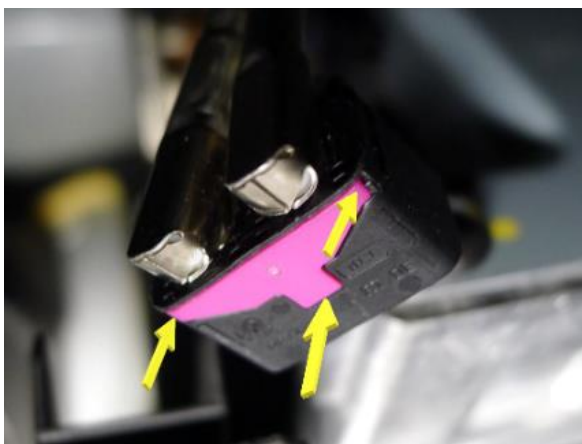

Figure 12 – Model 3
10. Install the coax retaining tab in the connector housing (Figures 12 and 13).